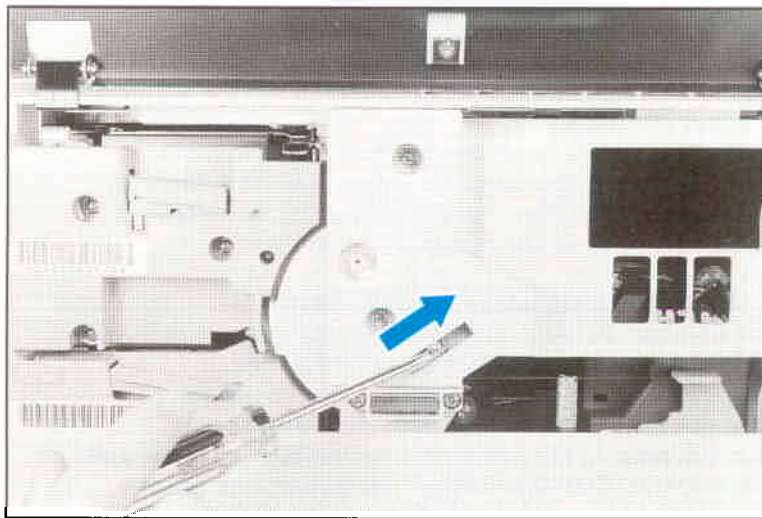

Figure 7-4
2. Open the side door and, using a flat blade screw drive, push the interlock mechanism, as shown in Figure 7-4, while running test 41 in service mode.